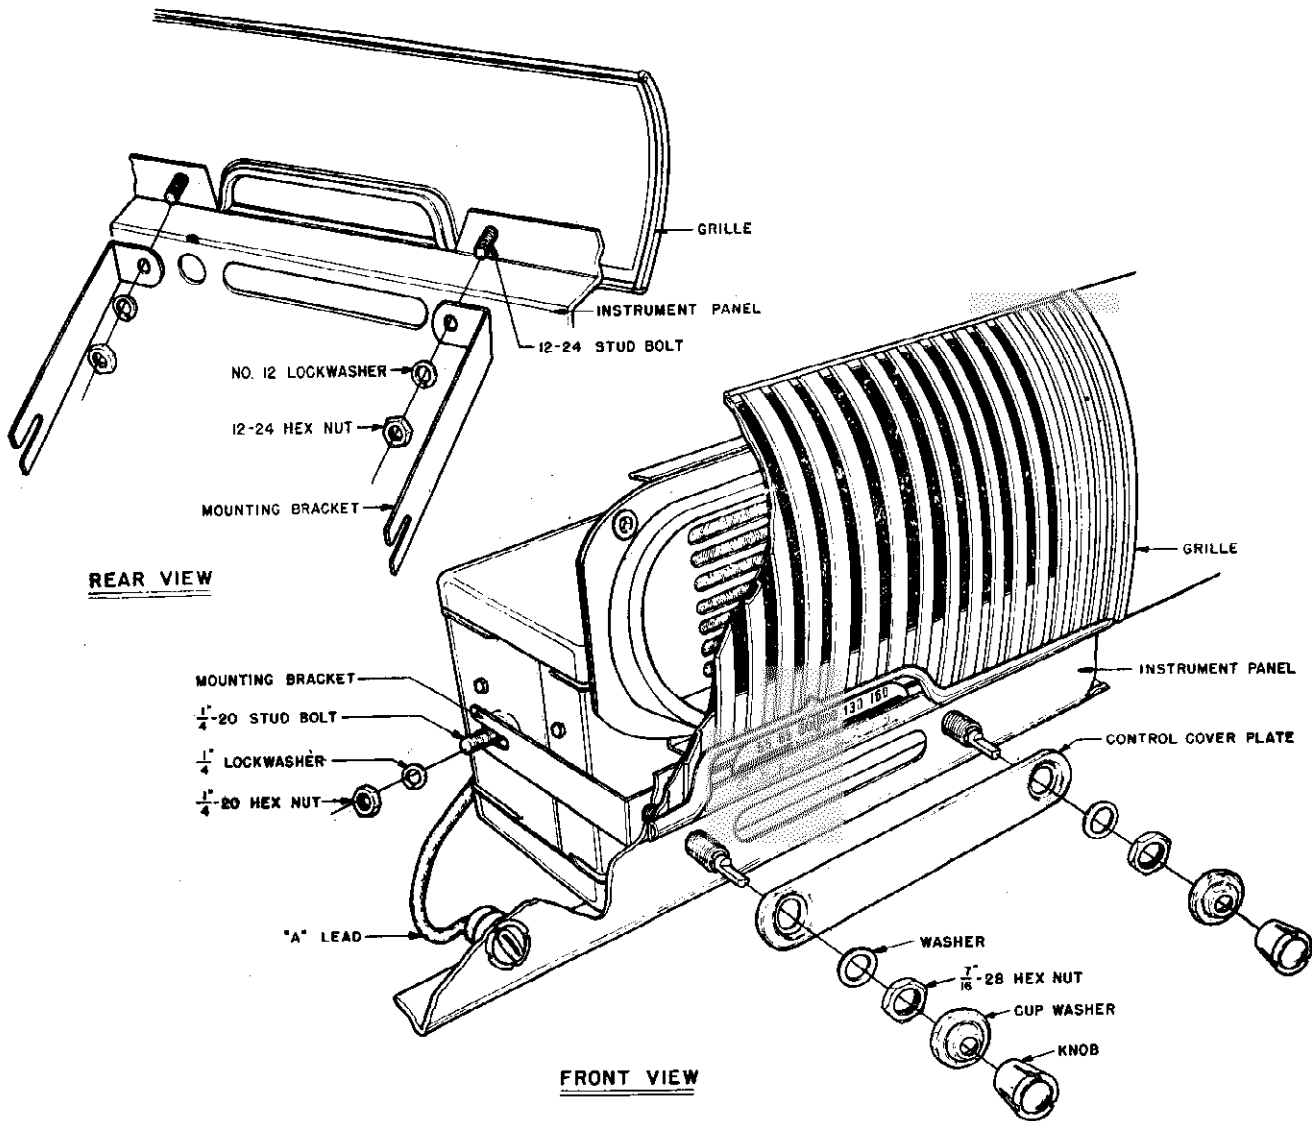

Fig. 2
5. Referring to Fig. 2 (front view), position the receiver behind the instrument panel so that the shafts and mounting bushings protrude through the instrument panel and the stud bolts on the sides of the receiver slide into the slotted ends of the mounting brackets.